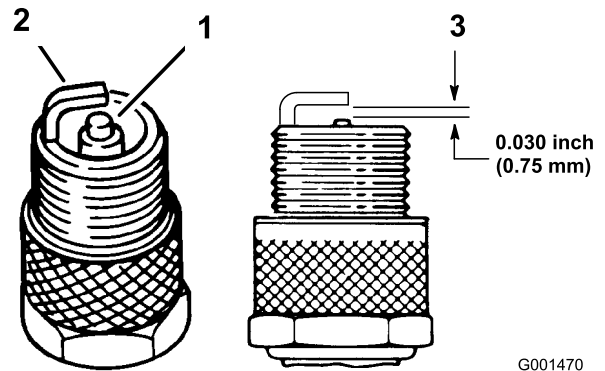

Figure 38
1. Look at the center of the spark plug (Figure 38). If you see light brown or gray on the insulator, the engine is operating properly. A black coating on the insulator usually means that the air cleaner is dirty.
3. Check the gap between the center and side electrodes (Figure 38). Bend the side electrode (Figure 38) if the gap is not correct.
3. Connect the wire to the spark plug (Figure 38).